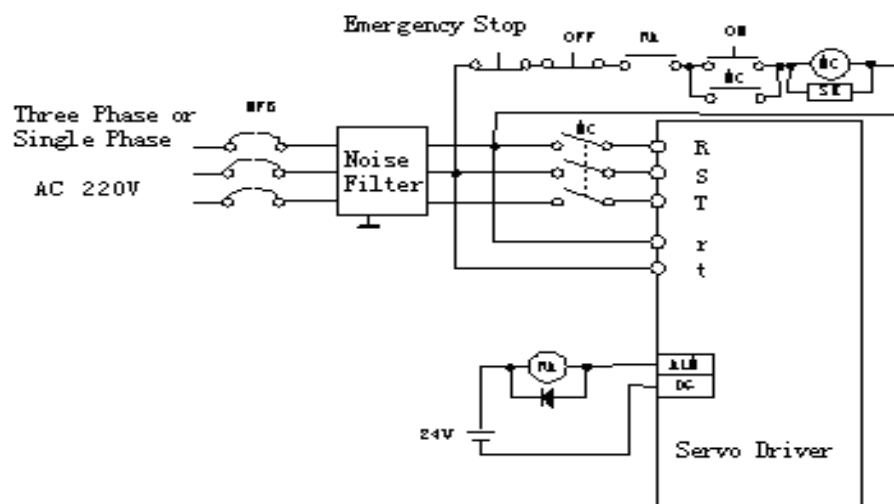

Fig. 7.1 Power Supply Connecting
- An emergency stop circuit must be coupled in to ensure that the power can be immediately cut off in case of failure (see Fig. 7.1).
Refer to Fig. 7.1 for power supply connecting and connect the power supply according to the following order: